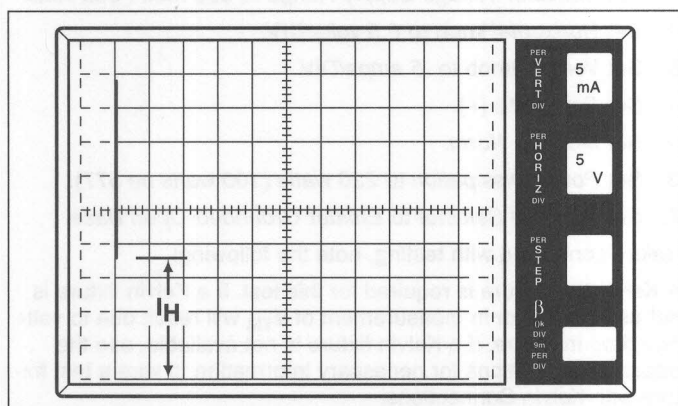

Figure 19.19 I_H (Forward) is equal to 18mA
- Decrease *Variable Collector Supply Voltage* to the point where the line on the CRT changes to a dot. The position of the beginning point of the line, just before the line changes to a dot, represents the I_H value (See Figure 19.19.)